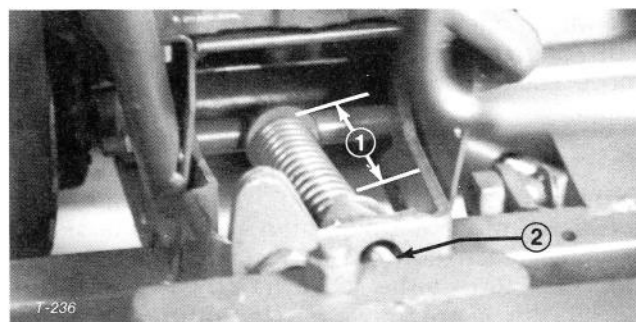

Figure 32
**REAR COUNTERBALANCE SPRING** — Turn adjusting nut (Fig. 32) counter-clockwise to release tension when disassembling counterbalance spring assembly.
The rear counterbalance spring length is factory set at 4-1/4 in. (10.8 cm), which is the measurement from washer to washer (Fig. 32). This measurement is usually adequate for most conditions. Should an adjustment be necessary, use the following procedures:
1. Turn adjusting nut counterclockwise to decrease spring tension (Fig. 32). Turn until both ends are equal in height.
1. Turn adjusting nut clockwise to increase spring tension (Fig. 32). Turn until both ends are equal in height.